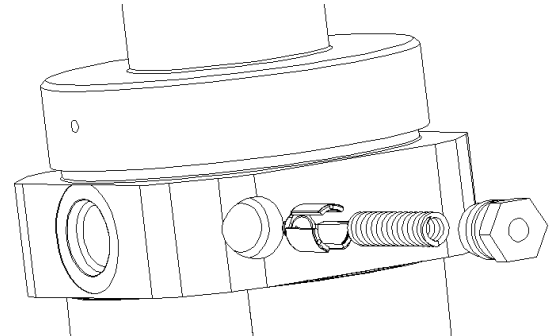

Figure 5 – Installation into regulator body
8. Install the new PRD spring retainer into the regulator by compressing the PRD spring and screwing the part in a clockwise direction. See figure 5.